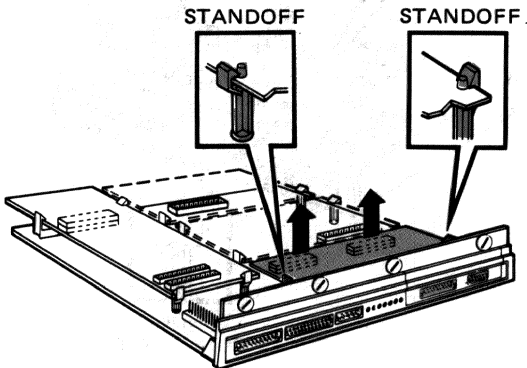

Figure 5-12 Extended Communications Option Board Removal
2. Push each standoff aside and lift the extended communications option board off of the system module. See Figure 5-12.